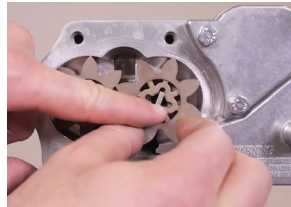

Figure 17
4. Pull the drive key and two gears from the pump (see Figure 17).